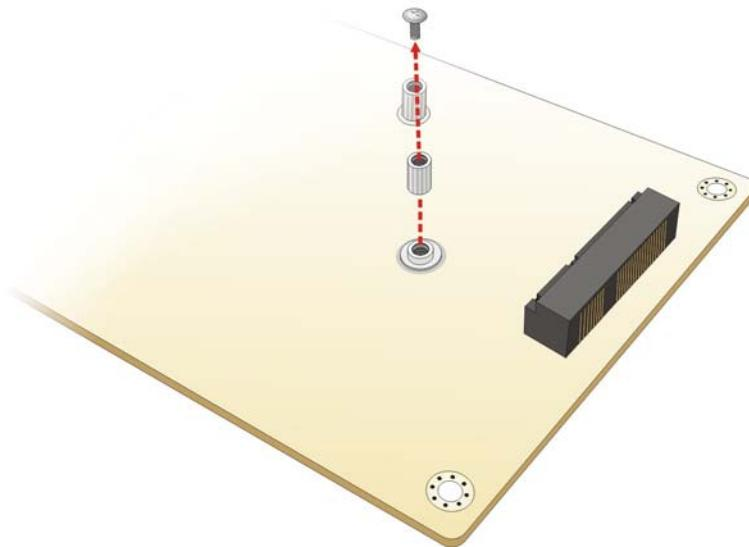

Figure 4-3: Removing the Retention Screw and Standoff
**Step 3:** Remove the retention screw and standoff. Unscrew and remove the retention screw and standoff for half-size PCIe Mini card secured on the motherboard as shown in **Figure 4-3**.
CN Location:	See Figure 4-3
The location of the clear CMOS button is shown in **Figure 4-3**